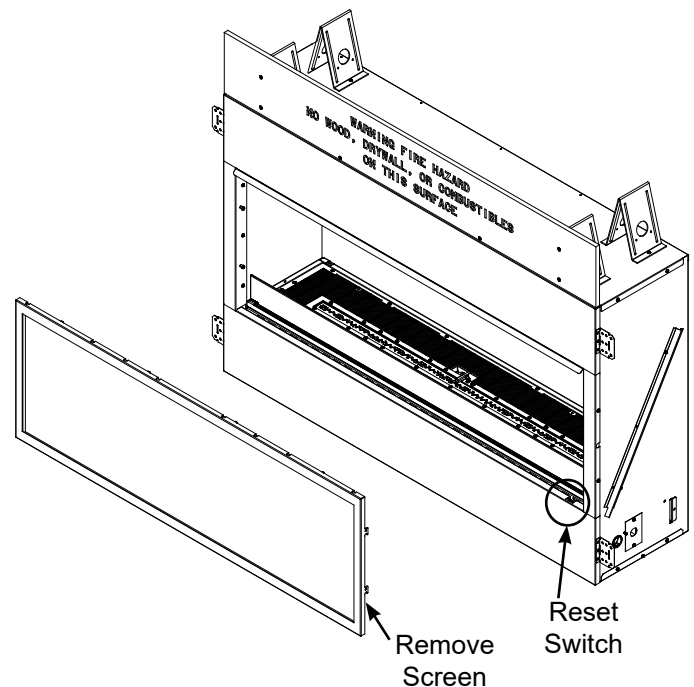

Figure 4.10 Reset Switch
- Turn the reset switch in the front face to the off position. See Figure 4.10
Remote control or control module failure	Turn off appliance by setting the reset switch in the front face to the OFF position. Warning! Risk of Burns! Appliance is hot. Use caution when accessing module. See Figure 4.10.